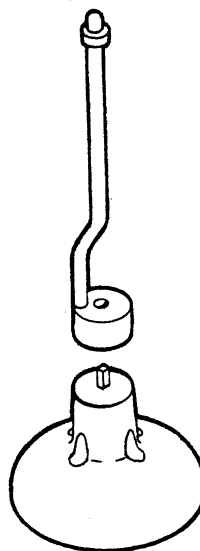

Figure 3
4. Place plunger rod over extended end of retainer (see Figure 3).